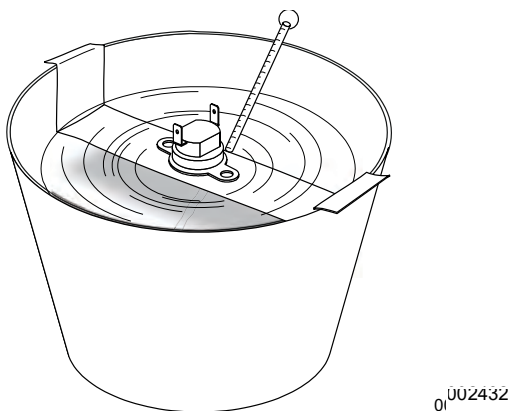

Figure 4-75. Testing the Oil Temperature Switch
10. See Figure 4-75. Immerse the sensing tip of the switch in oil, along with a suitable thermometer.